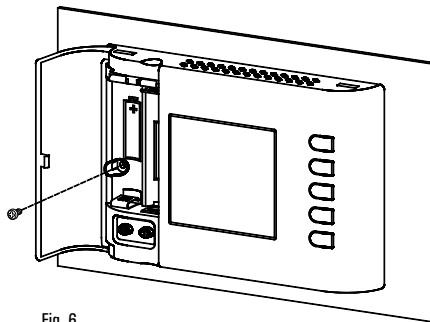

Fig. 6
- 5 Secure the body of the programmable thermostat to the wall plate using the supplied screw that is located inside the battery compartment (Fig. 6).